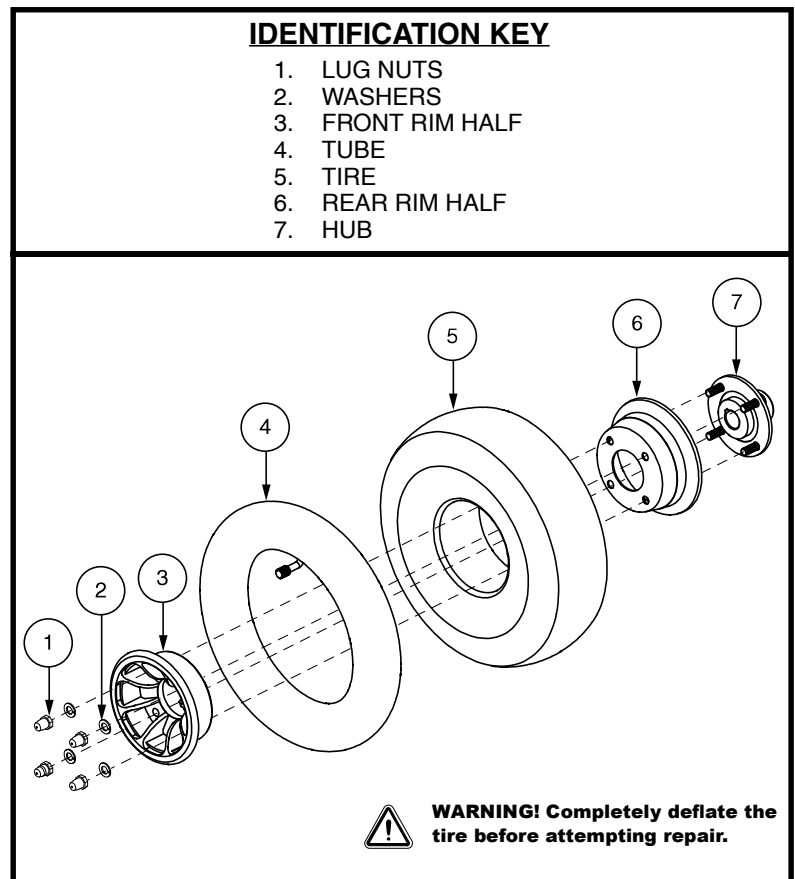

Figure 32. Pneumatic Drive Wheel Disassembly/Assembly
6. Remove the lug nuts and washers and separate the rim halves. **See figure 32.**
7. Remove the old tube from the pneumatic tire and replace it with a new tube. **See figure 32.**